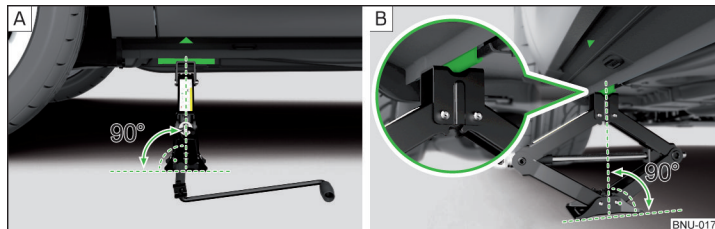

Fig. 324 Attach lifting jack
Jacking points for the car jack are directly under the marking on the bottom beam panel» Fig. 324 - [A],
- ▶ Support the base plate of the jack with its full area resting on level ground and ensure that the jack is located in a vertical position at the jacking point » Fig. 324 - [A].
- ▶ Use the crank to raise the jack until its claw encloses the bar » Fig. 324 - [B].